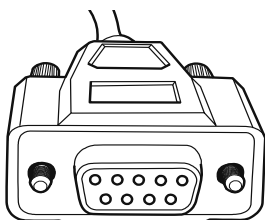

Figure 1
1. Plug in the Q-Logic™ Handheld Programmer to the Q-Logic™ ED (Enhanced Display) or to the standalone joystick if SCIM (Specialty Control Input Module - Figure 1) is in use.